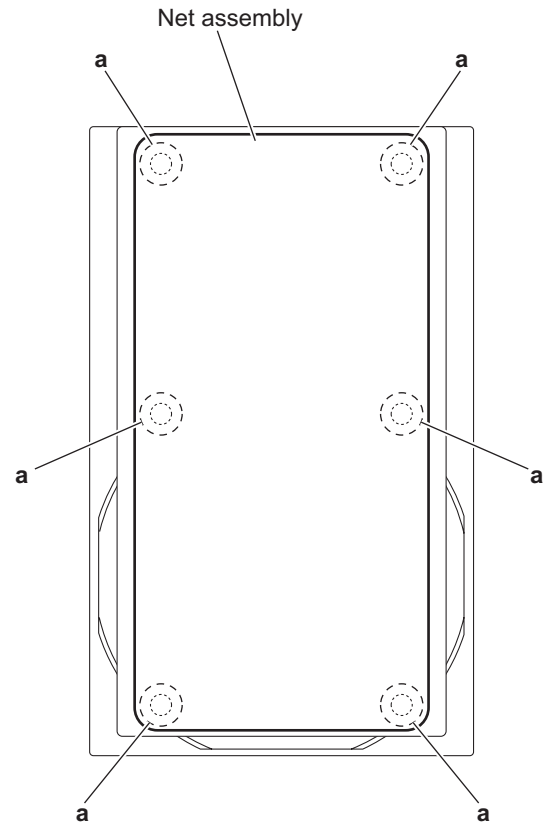

Fig.1
3.5.1 Removing the net assembly (See Fig.1)